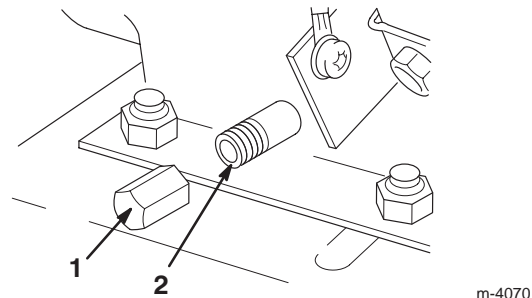

Figure 27
5. Clean the area around the oil drain plug (Fig. 27).
6. Slide an oil drain pan below the drain extension and remove the oil drain plug (Fig. 27).